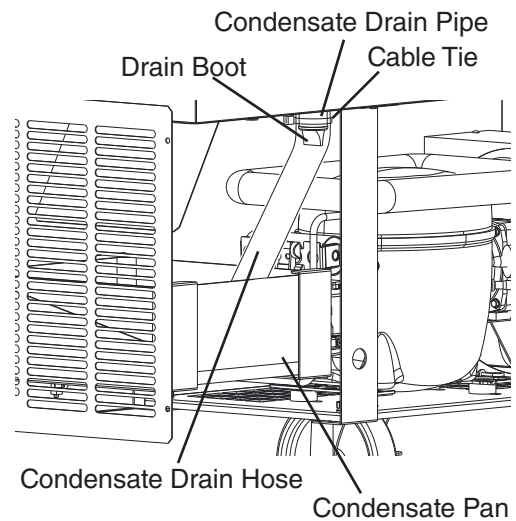

Fig. 41
- 5) Remove the cable tie and condensate drain hose. See Fig. 41. **NOTICE! Before removing the condensate drain hose, place a pan underneath the condensate drain pipe to catch any water.**